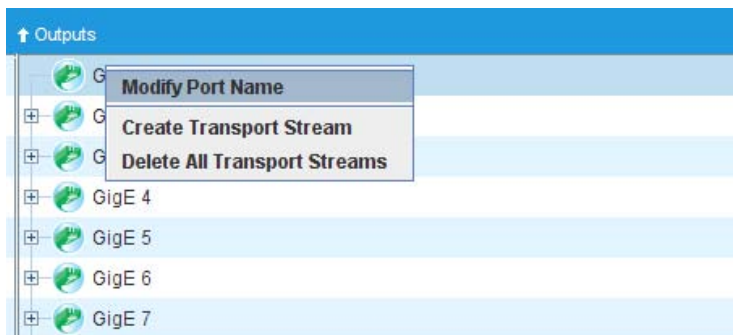

Figure 42. Modify Port Name Menu
1. From the **Inputs** or **Outputs** side of the **Grooming -> Mapping** window, right click the desired port name. The following pop-up menu appears (Figure 42).